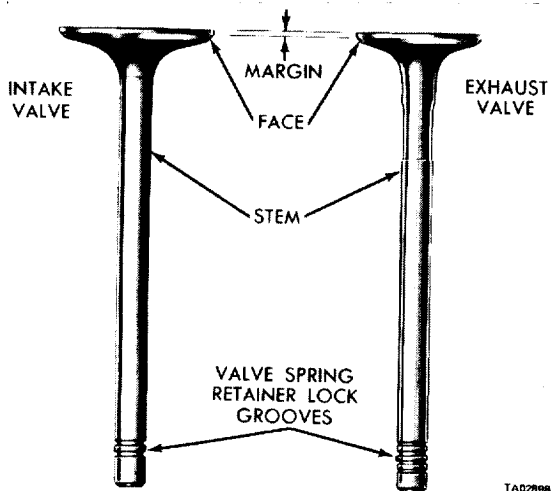

Figure 11-21. Intake and Exhaust Valves.
(2) Inspect the remaining margin after the valves are refaced (figure 11-21). Discard any valves with less than 3/64-inch margin.